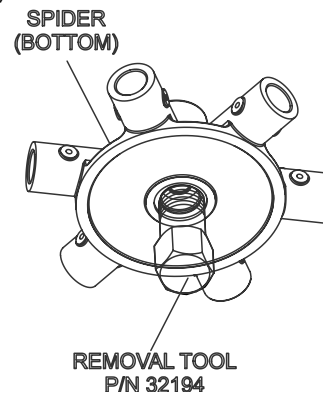

Figure 4. Removal Tool
7. Insert spider removal tool (P/N 32194) into machined threads on spider (Figure 4) and torque to 300 ft-lb (407 N·m).